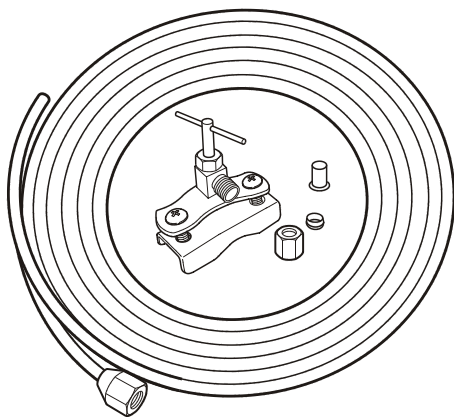

Figure 9
- Use a 1/4" OD copper line to connect the water supply to the solenoid valve. **This is not supplied with the refrigerator (Figure 9).**